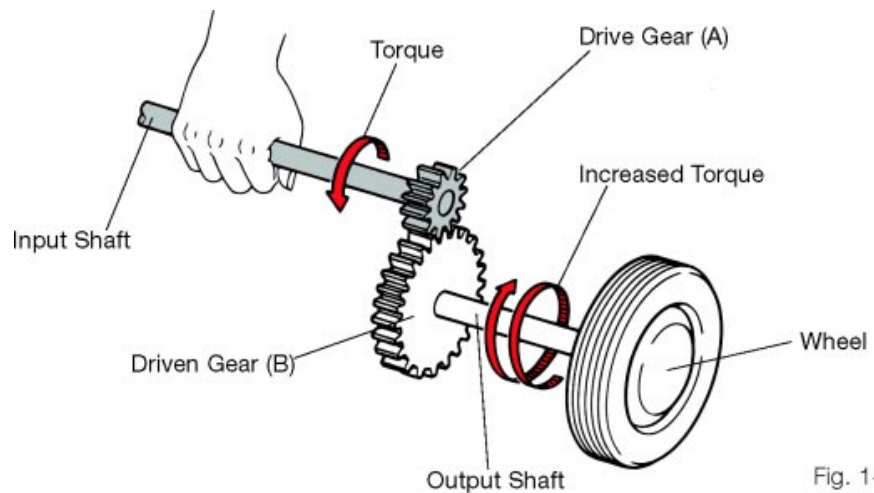

Fig. 1-9
An example of a simple transmission would be one that consists of a drive gear and driven gear working to rotate a wheel (figure 1-9). Force is applied to a drive gear with 12 teeth to rotate a driven gear with 24 teeth, which in turn rotates a wheel; the gear ratio of this simple transmission would be: $24/12 = 2$ or 2:1. The speed of the drive gear is going to be twice the speed of the driven gear. This is determined by the ratio between the number of teeth on the drive gear and the driven gear. The gear ratio or reduction ratio also determines the amount of torque transmitted from the drive gear to the driven gear. Although the driven gear is turning at half the speed of the drive gear, the torque that the driven gear has is twice that of the drive gear.
The simple transmission in figure 1-9 has a gear ratio of 2:1; the drive gear (A) has a torque of 100 ft-lbf.
In a simple transmission as shown in figure 1-9, the direction of rotation of the drive gear is reversed to the driven gear as power is applied. Thus, the direction of rotation of the input shaft is reversed in the output shaft.